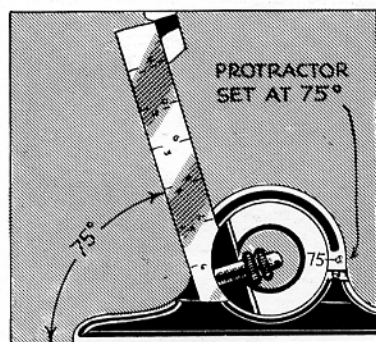

FIG. 401
8. Loosen the tool-post screw and move the tool holder until the cutting edge of the tool is approximately in line with the scribed line, or until the cutting edge coincides with the blade of the protractor set at  $75^{\circ}$  (Fig. 401).